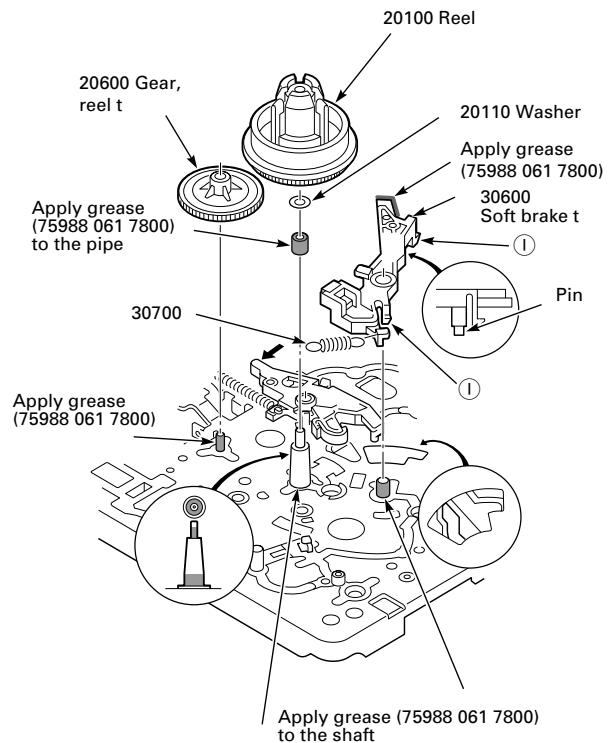
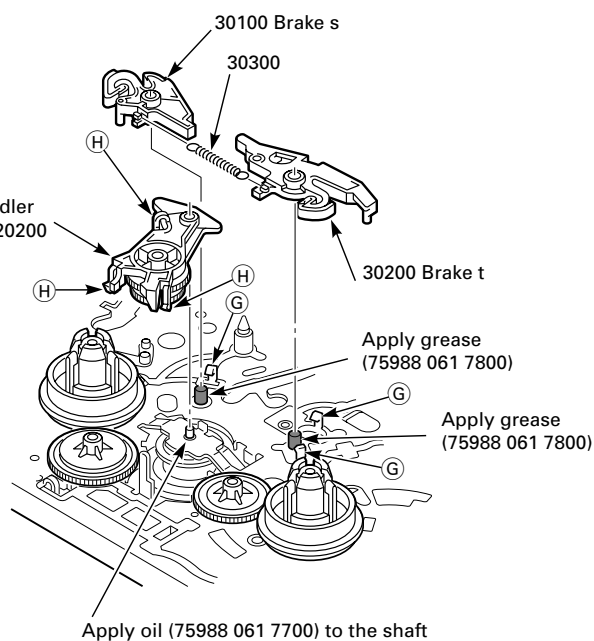
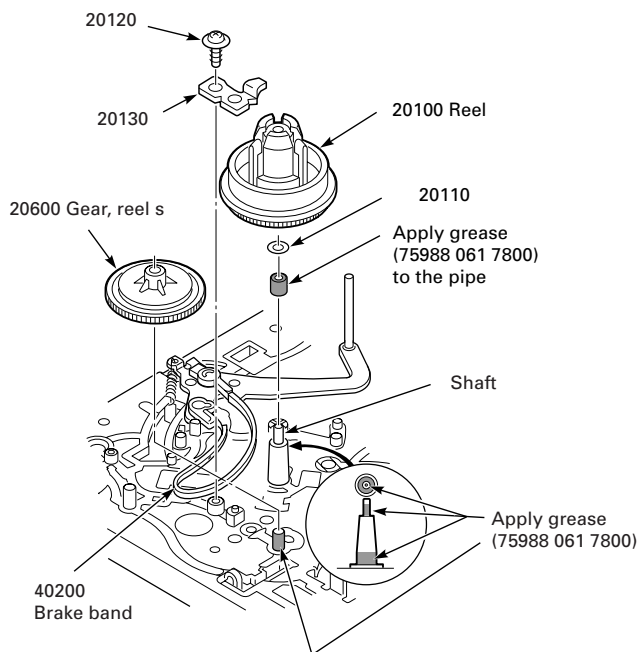

Fig. 8.19
Fig. 8.17
Fig. 8.20
- Unhook the spring of the main brakes (30300), disengage the clamp ⑥ and remove the brakes (30100 and 30200, Fig. 8.17).
- Disengage the clamp ⑨ and remove the idler (20200, Fig. 8.17).
- Unhook the spring (30700), disengage the clamp ① and remove the soft brake (30600, Fig. 8.19).
- Always use the types of grease with part numbers **75988 061 7700** and **75988 061 7800** for lubricating the soft brake slide and follow the lubrication instructions given in Fig. 8.17 – Fig. 8.19!
- Remove the right take-up reel (20100, Fig. 8.19).
- Remove the left take-up reel (20100) (Fig. 8.20).
Attention: The bushings shown in Fig. 8.19 and 8.20 can only be replaced if they are of plastic material.
- For lubricating the axles and the bushing use exclusively the lubricant **75988 061 7800** and observe the lubricating notes in Fig. 8.19 and Fig. 8.20 (shaded surfaces)!